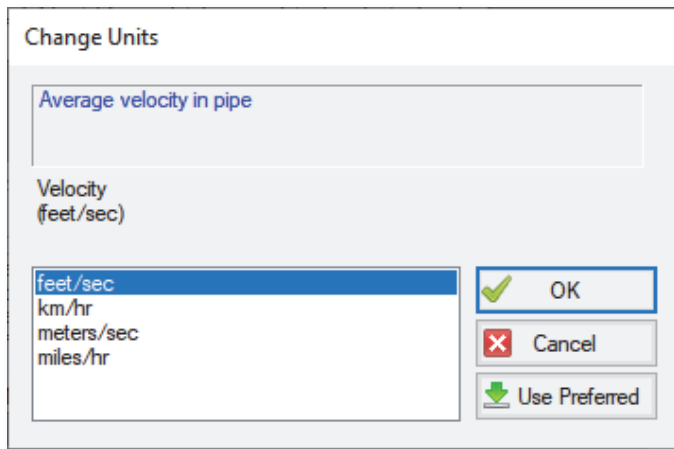

Figure 2.20 The Change Units window is opened from the Output window tables by double-clicking the column header
- **Lastly, double-click the column header for Velocity on the Output window Pipe Results Table.** This will open a window in which you can change the units again if you prefer (see Figure 2.20). These changes are extended to the Output Control parameter data you have previously set.